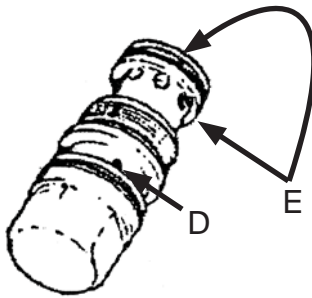

Figure 5-33. Cartridge Valve
2. Pressurize drain hole D at 120 PSI (see Figure 5-33).
3. Check for air leakage on any part of the valve. Air usually leaks around E (see Figure 5-33). Repeat process on the other 2 cartridges.